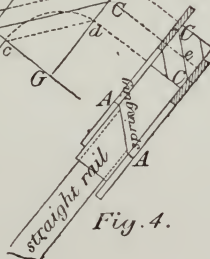

Fig. 4.
5. Figs. 4 and 5 show a handy method of drawing a curtail scroll. In Fig. 5, which is a magnified representation of Fig. 4, the width $A B$ is divided into eight equal parts. Make $A D$ equal to one of these parts and at right angles to $A B$, and join $B D$. Place one foot of the compasses at c , the centre of $A B$, extending the other foot to touch the line $B D$, and draw the arc, cutting $A B$ in the point 1. Then 1 is the centre of the first or largest quadrant of the scroll. Draw $1 E$ square to $A B$, and from 1 as a centre draw the large quadrant $B E$. Draw $D 2$ parallel to $A B$. The point 2 is then the second centre. In order to find the remaining centres, from E draw $E F$ square
The advantage of this method of drawing a scroll is that the width A B may be varied to suit any width of rail. For a wide one it may be increased, and for a narrow one diminished. If another quadrant or part of a quadrant is required, it is only necessary to increase its radius in the same proportion as the first radius is to the second, and then set the foot of the compasses at this distance from B, on the line A B, as shown by the dotted lines on Fig. 4.
width determines) on the outer curve between B and D, and also beyond B on the dotted curve (Fig. 4).
Fig. 4 shows the application of this mould to the plank for the purpose of working it to the twist or *bevelling* (we shall throughout this work call it *bevelling*). The piece is first cut out square to the shape of the mould, leaving the stuff full all round, and one side planed true. It will be found better to have two moulds for bevelling, one for each side of the piece, to supply the place of the line that will be lacking by reason of the piece being cut out square.
In Fig. 4 there are two moulds shown with the
drawn. w is the centre of the ellipses, and $D E$ the direction of the longer diameter. Fig. 4,